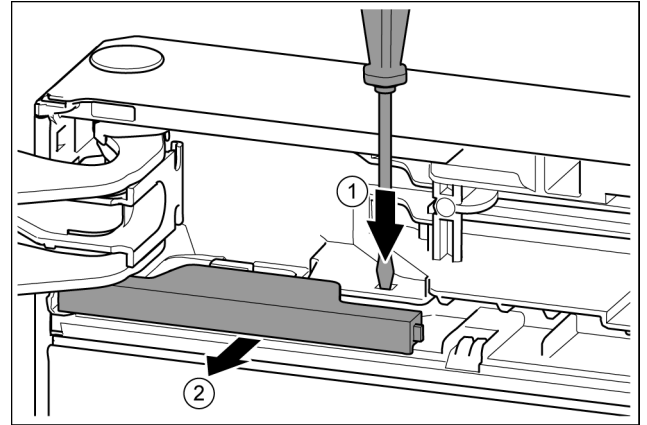

Fig. 9
- Press the tab with the slotted screwdriver. *Fig. 9 (1)*
- Pull cover out of the catch mechanism. *Fig. 9 (2)*